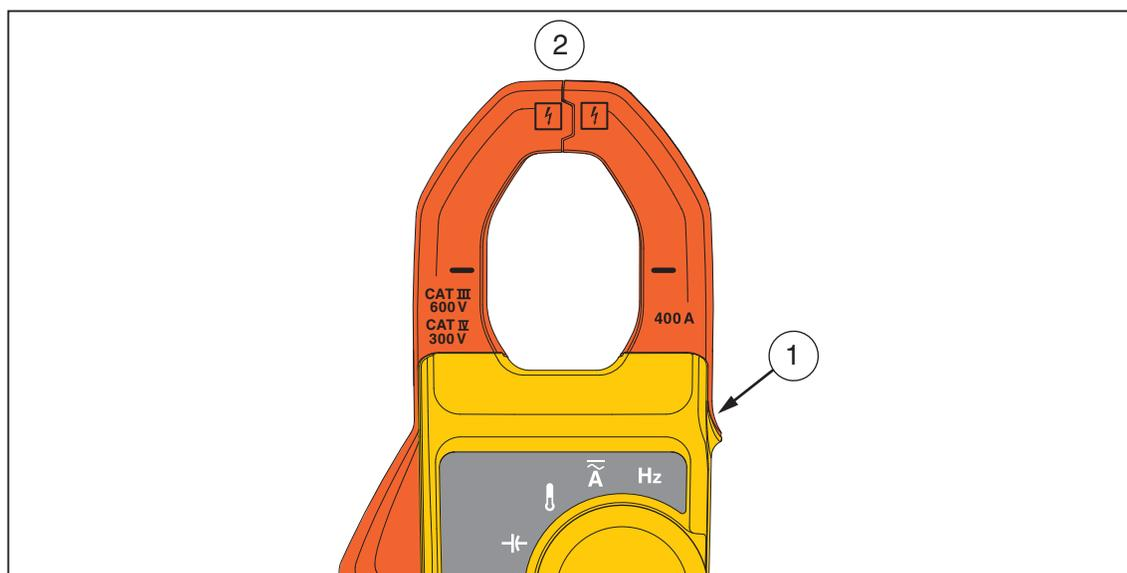

Figure 1. Clamp Jaw (325 is Shown)
- Hold the Product behind the tactile barrier. See Figure 1, item ①.
- Before each use, examine the Product. Look for cracks or missing pieces of the clamp housing. Also look for loose or weakened components. Carefully examine the insulation around the jaws. See Figure 1, item ②.